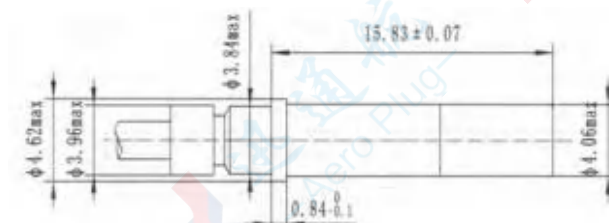

图23
④ Figure 23 shows the fully crimped 12# shielded socket.